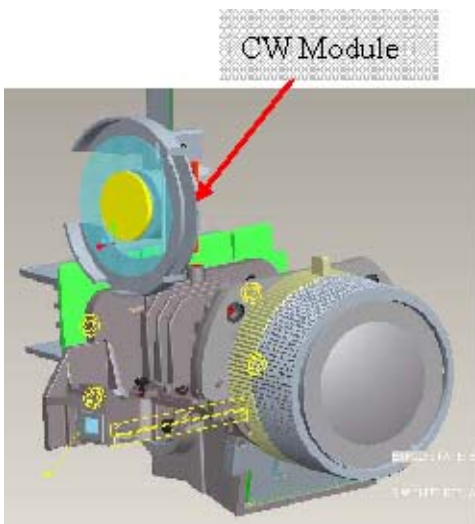

Figure9-1 ,
I. Assemble CW Module to HSG DMD (Figure9-1 ,9-2)